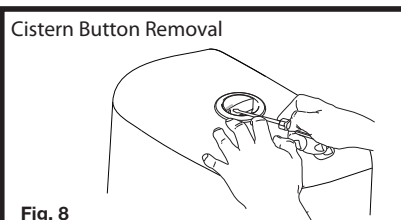
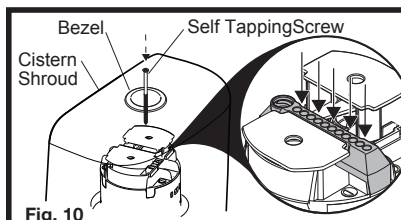

Fig. 8
Fig. 10
- 8- Remove 1/2 flush and full flush buttons from bezel as shown in Fig. 8 by depressing one button. Prise out one button, then remove the second button.
- 10- Insert self tapping screw (supplied with Cistern Shroud) into centre slot of bezel and tighten screw until it secures Cistern Shroud onto Cistern, as detailed in Fig. 10. Do not overtighten. Replace springs and buttons back into place and check smooth operation of both buttons.
- 11-To access cistern for service, remove buttons as detailed in Fig. 8. Undo Self Tapping Screw shown in Fig. 10 and carefully lift off cistern shroud.